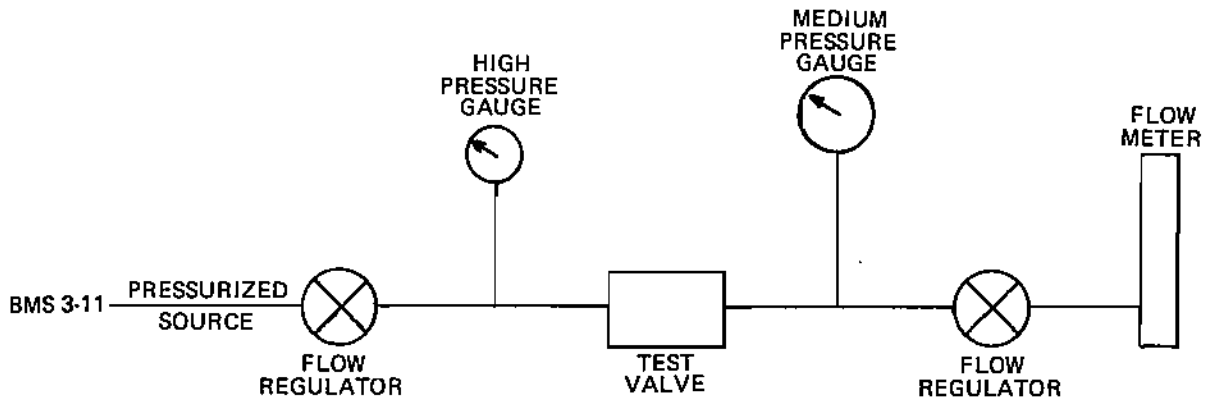

FIGURE 1B
2. Cracking Pressure (See Figure 1B)
3. Rated Flow (0121520500-6 Valve Only Per Figure 1B)